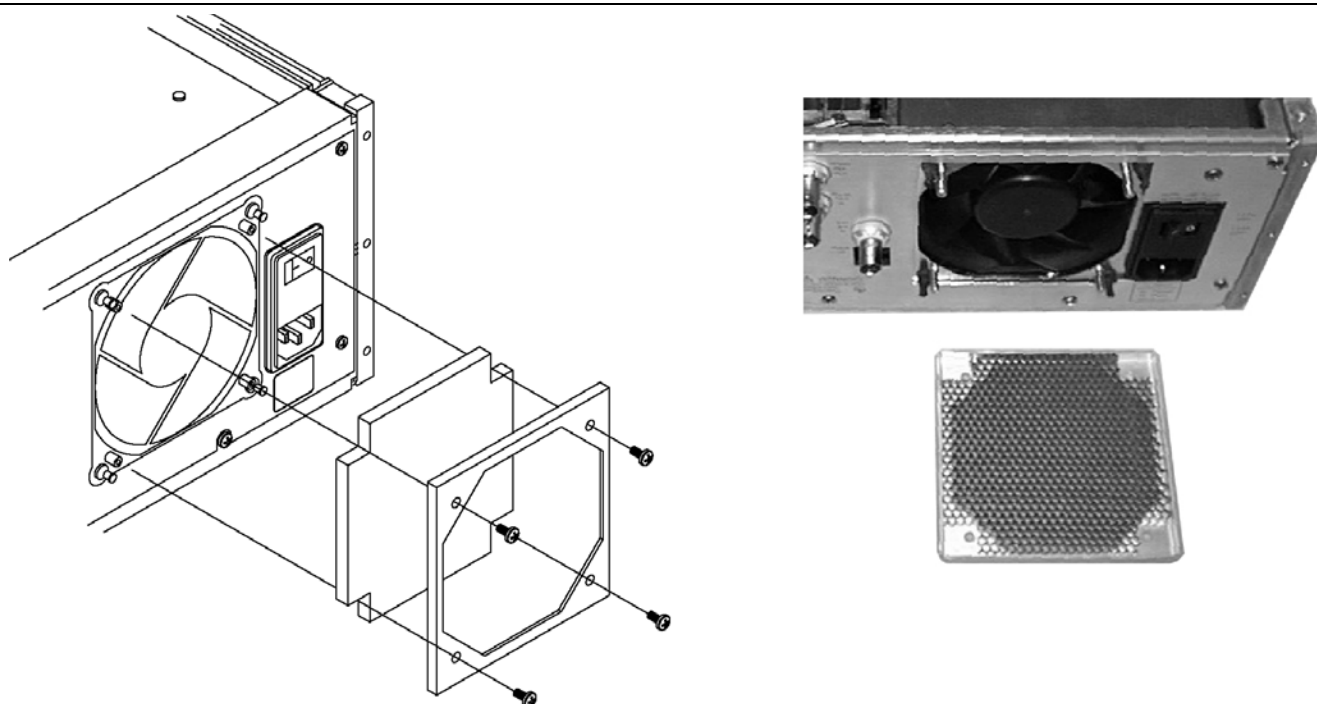

Figure 1-1. Removal/Replacement of the Fan Filter Guard
2. Use a #3 screwdriver to remove the four screws that fasten the filter guard to the rear panel (see Figure 1-1). Retain the screws for reassembly.